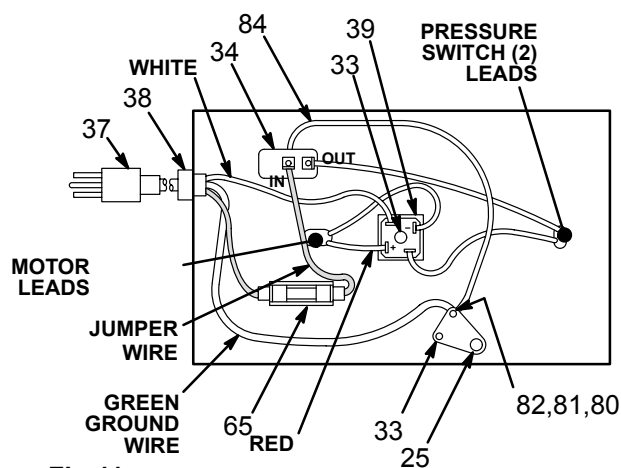

Fig 11
Rectifier (See Fig 11.)
1. Disconnect the two leads from the ON/OFF switch (34) terminals. See Fig 11.
4. Connect a pressure switch lead to the power-OUT terminal, and a jumper wire lead to the power-IN terminal. See Fig 11.
Pressure Switch (See Fig 11, 12 & 13.)
1. Disconnect the pressure switch leads from the ON/OFF switch and from the rectifier. See Fig 11.
6. Guide the pressure switch leads through the base. Connect a lead to the power-OUT side of the ON/OFF switch (34) and connect the other end to an unmarked terminal on the rectifier (39). See Fig 11.